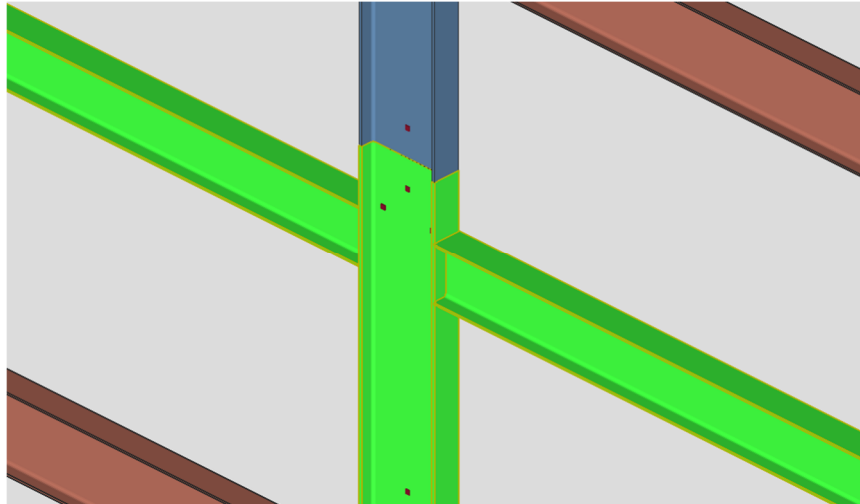

Figure 4-2. Select Members
- If there is a second beam, select it while still holding the shift key. Column and beam(s) should all be selected, see Figure 4-2.